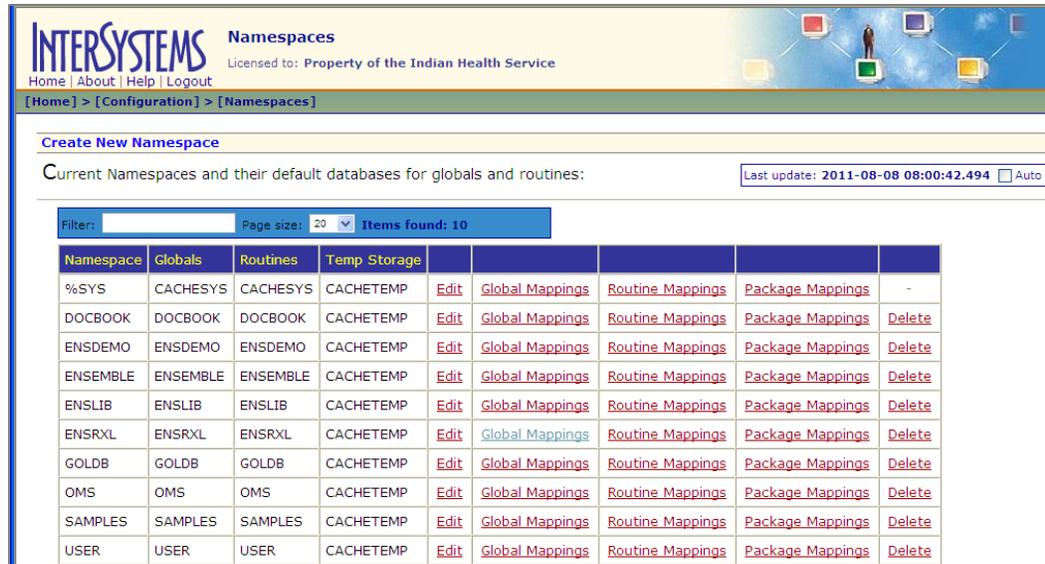

Figure 5-2: Namespaces window
2. Select **Configure Namespaces** from the **Go to** list displayed in Figure 5-2: